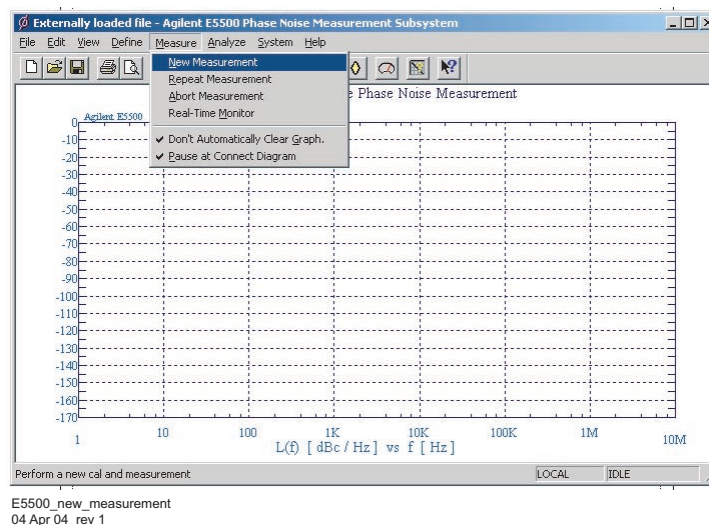

Figure 103 Selecting a new measurement
- 1 From the **Measurement** menu, choose **New Measurement**. See Figure 103.